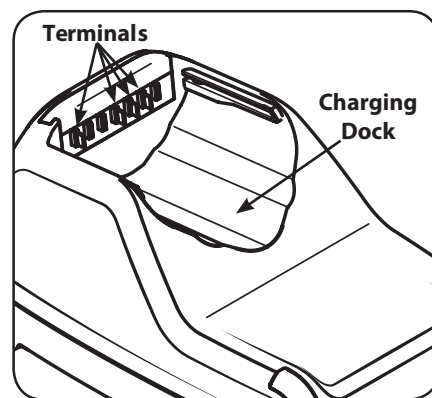

Figure 4-2
1. Keep the battery charger clean and clear of debris. Do not allow foreign material into the charging dock or onto the terminals. See Figure 4-2. Inspect the battery charger for foreign material before each use.